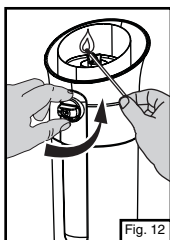

Fig. 12
- Place lighted match near burner and open fuel valve fully. (Fig. 12)